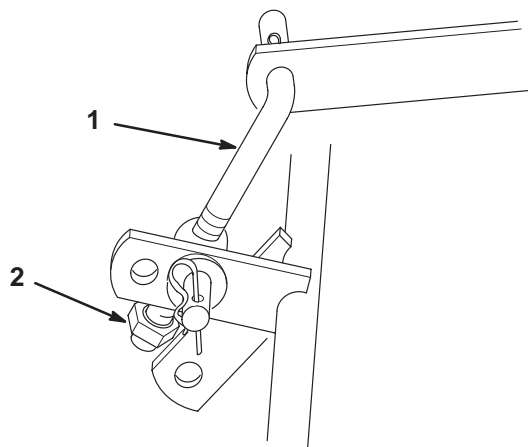

Figure 10
5. To adjust front-to rear blade slope turn locknut on rear adjustable link (Fig. 10).